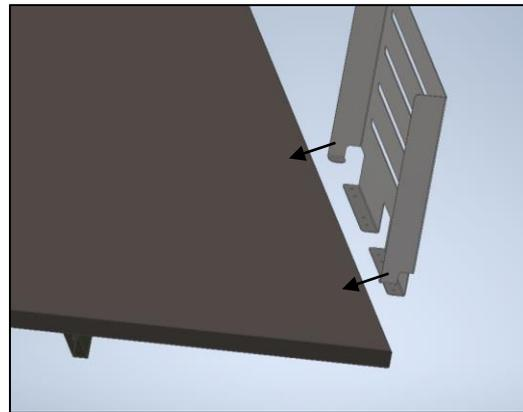

Figure 2
2. Slide the slat wall onto the worksurface in the desired location (Figure 2)
2. Let the accessory rest on the wall (Figure 2)